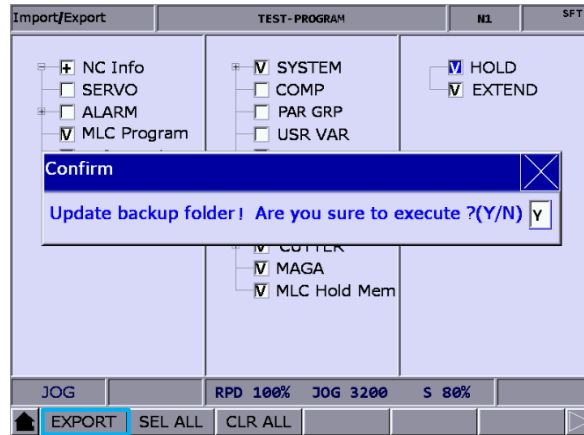

Figure 9.9.3
- (8) If you save the exported file to a folder where an exported file already exists, a confirmation window appears as shown in Figure 9.9.3. Enter “Y” and press **ENTER** to replace the existing file with the newly exported file.